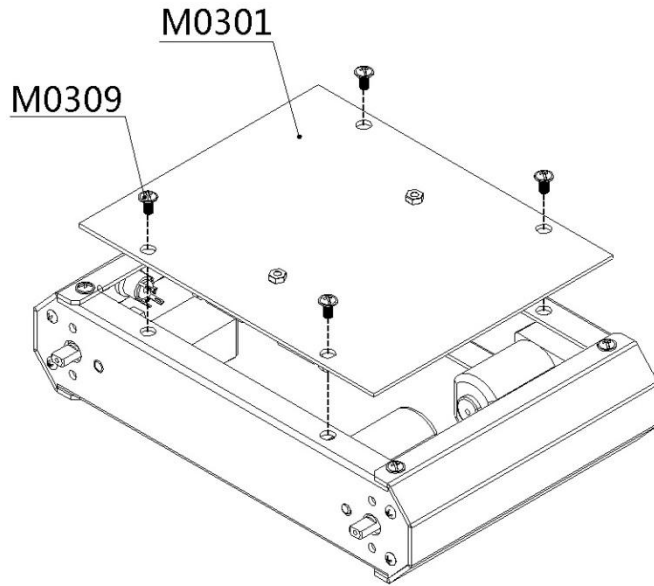

Figure 4-6
11. Figure 4-6; use flange screws to fix the fuselage's upper plate to the side truss.